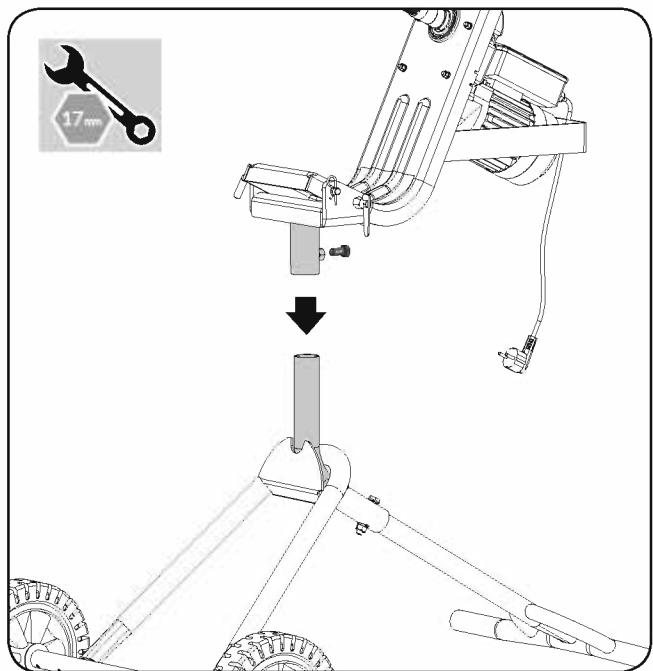

Figure 1c
4. Slide the swivel bracket and drum support frame onto the shaft of the cement mixer frame. Secure them together with an M10x25 bolt. (See **Figure 1c**)